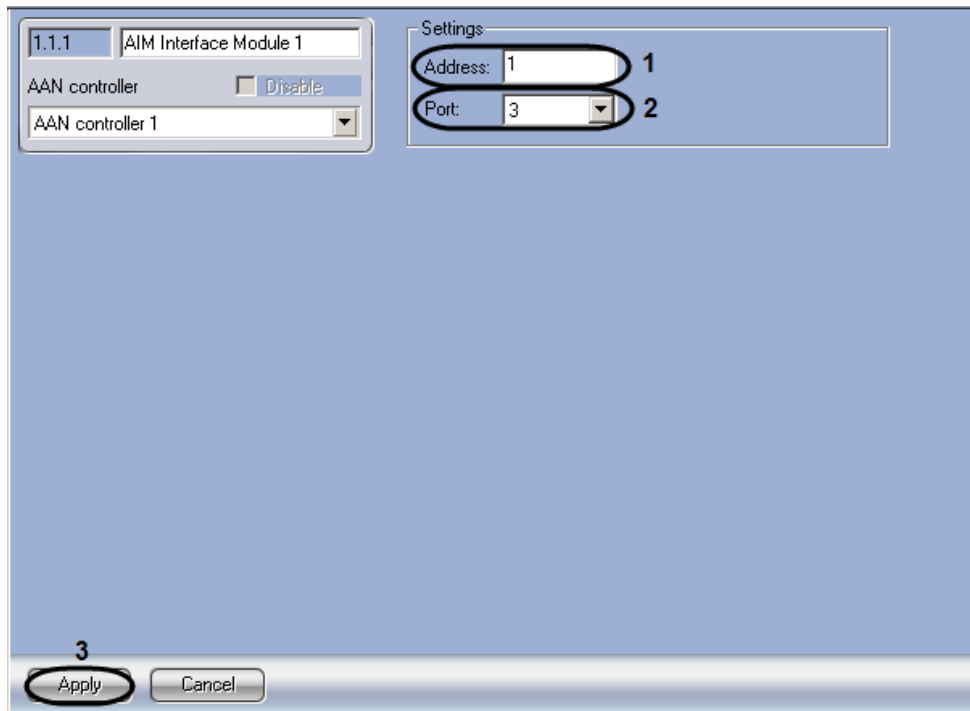

Fig.3.3-2 Settings pane of an AIM Interface Module object
1. Go to the **AIM Interface Module** object's settings panel (Fig.3.3-2).
2. In the **Address** field, enter the *AIM* Interface Module's unique address (see Fig.3.3-2, 1).
3. Select the port used to connect to the *AIM* Interface Module from the **Port** dropdown list (see Fig.3.3-2, 2).
4. To save changes, click the **Apply** button (see Fig.3.3-2, 3).